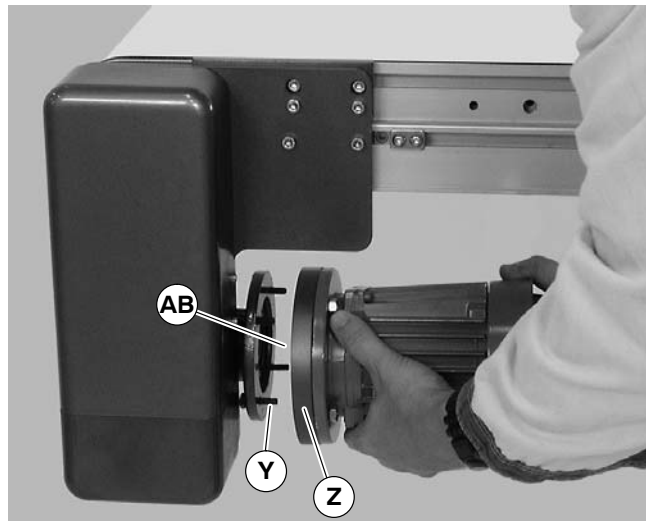

Figure 23
5. With key (AB of Figure 23) in keyway, slide motor